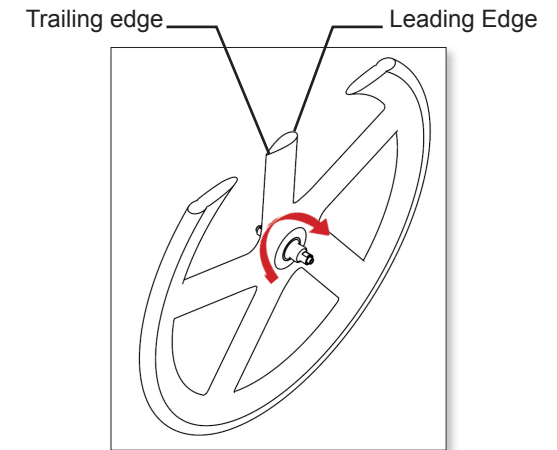

Figure 3
- Check the direction of rotation of your 3, 4 or 5 Spoke front wheel to benefit from its aerodynamic advantage (leading edge and trailing edge). (**Figure 3**).